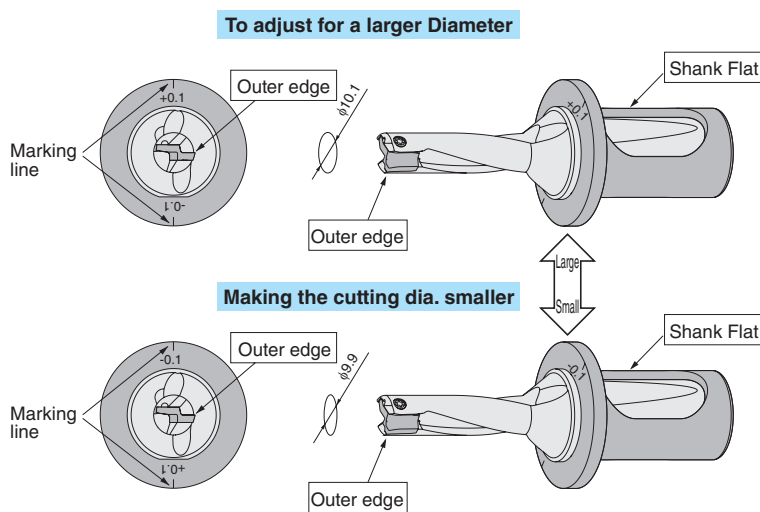

Fig.1 Diameter Adjustment Method (e.g.) φ10 Drill
- (1) Set the outer edge horizontally with 90° to making line on the sleeve. (Fig.1)
- (2) To adjust to larger diameter, align the +0.1 mark on the sleeve with the flat on the drill shank.
To adjust to smaller diameter, align the -0.1 mark on the sleeve with the flat on the drill shank. (Fig.1)